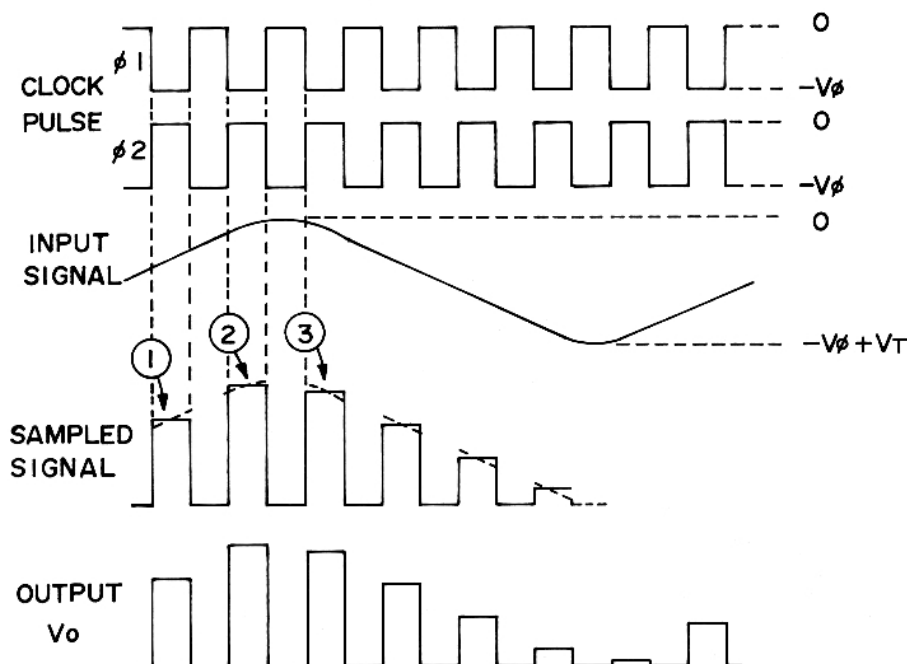

Fig. 6
See the portion ① in Figure 6. After transferring this segment signal to the subsequent stage, the capacitor stores again the portion ② at its next sampling time. This operation is repeated again and again. As a result, the waveform V_o shown in Figure 6 can be obtained as the output of BBD. By passing this output waveform through a low-pass filter, the original waveform can be restored. Next, let us consider that the clock pulse frequency is lowered (or the input signal frequency is higher). In this case, the input signal is varying largely even during the sampling time, and it is impossible to say how the capacitor can be charged at the end of the sampling time. BBD transfers segments of the input signal, and the original signal is restored afterward. Accordingly, if the signal varies largely within one sampling time, it is impossible to restore the original signal from the sampled segment signals. When transferring a higher frequency signal, therefore, it is necessary to increase the clock pulse frequency.
- Push the center of the push rivet by a small screw driver as shown in Figure 6, and remove two push rivets from the top of the front panel (Photo 2).